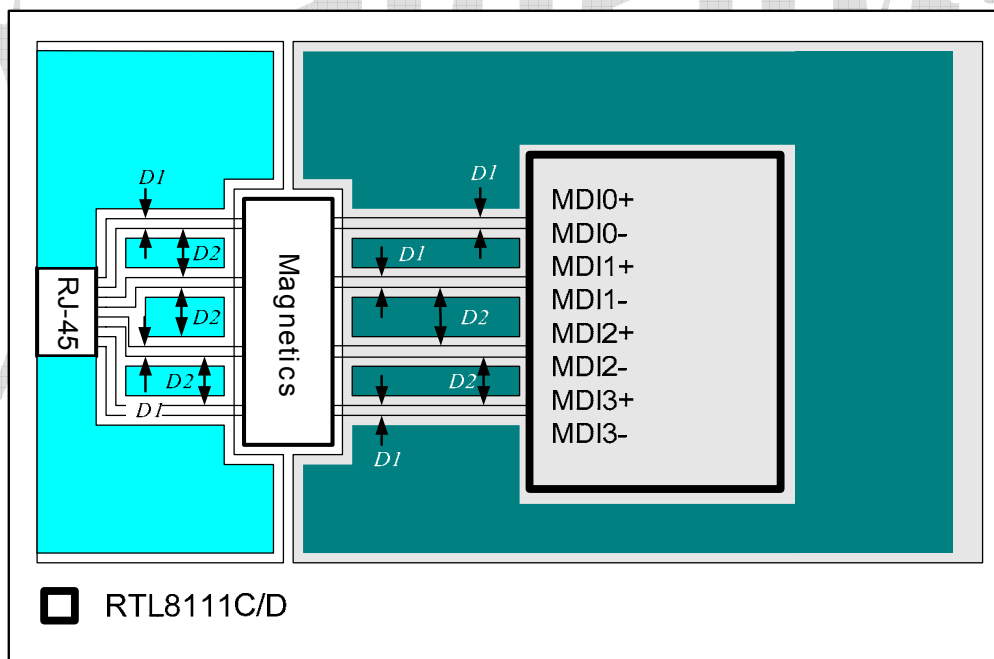

Figure 3. Signal & Trace Routing
- Traces routed from the RTL8111C/D-GR to the 10/100/1000M magnetics, and to the RJ-45 connector, should be as short as possible. The 12cm maximum length between the RTL8111C/D-GR and magnetics is achievable only when there is no interference. It is also very important to keep all four differential pair signal traces (MDI0+/-, MDI1+/-, MDI2+/-, MDI3+/-) equal in length. The two traces of each pair should be placed close to each other ($D1$) since they are differential pair signals to each other and provide a strong canceling effect on noise. The width of $D1$ should be calculated to have 100Ω impedance (Figure 3).
- We suggest that there should be more than 50 mil spacing between different differential pairs to minimize cross-talk coupled from other pairs (D2 in Figure 3). In addition, Ground Plane shielding can be used to separate all four signal pairs. However, a good layout should avoid the following situations: